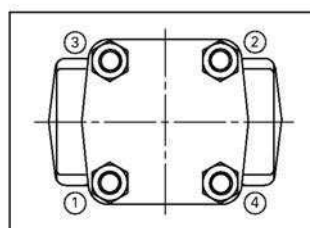

Figure 5.2B Bolt tightening sequence
3. With bolts hand-tight, follow the bolt-tightening sequence shown in Figure 5.2B. The sequence depends upon the number of bolts employed and the sketch shows only one possible tightening sequence. The bolts must be torqued to the recommended values shown in Table 5.2.